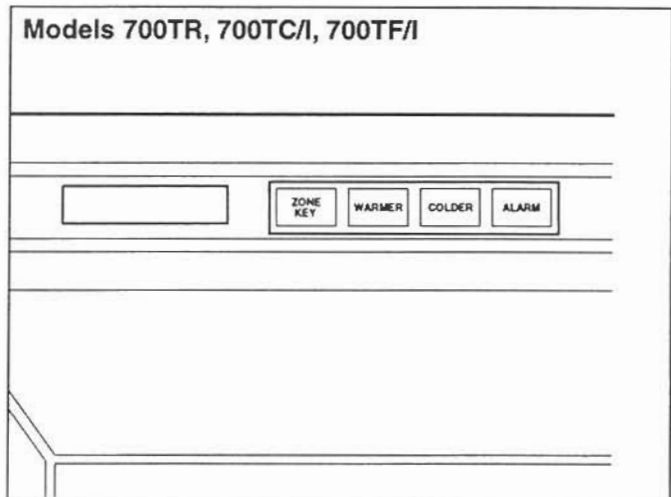

Figure 2-7. Electronic Control Panel
*NOTE: If the door is open for more than 15 seconds the alarm will sound. The alarm can be disabled by pushing the ALARM button (Figure 2-7). The alarm will default to ON after a power outage.*
*NOTE: Do not remove the light diffuser to access the mounting screws. Look behind the diffuser panel (Figure 2-7).*